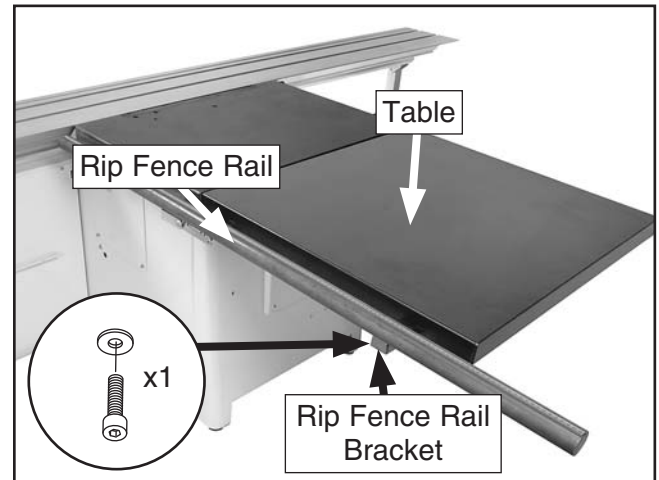

Figure 15. Extension table positioned.
4. Swing the table up and attach the rip fence rail bracket to the rip fence rail with one M8-1.25 x 16 cap screw and 8mm flat washer (**Figure 15**).